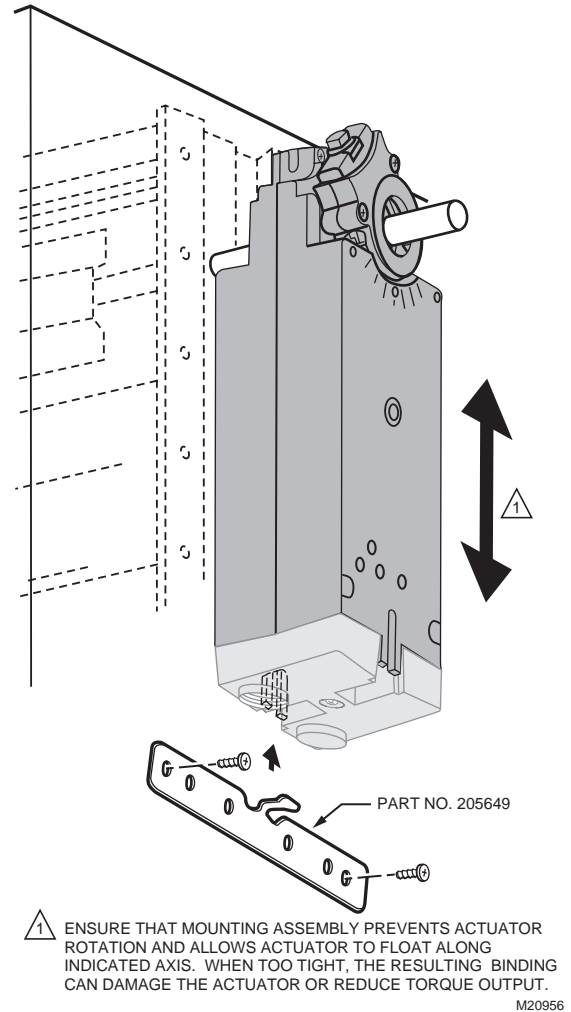

Fig. 7. Mounting actuator to damper housing.
1. Place actuator over damper shaft; and hold mounting bracket in place. See Fig. 7.